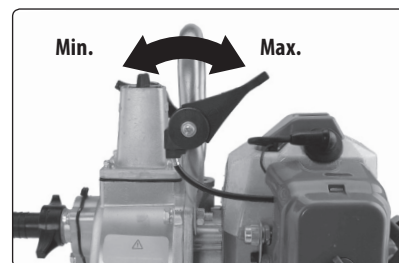

Fig. 5, lever positions for regulating the flow rate for min. and max.
- 6) Set the power/rpm regulator to the position between minimum and maximum - depending on the required flow rate respecting the delivery height and suction depth, see fig. 5.